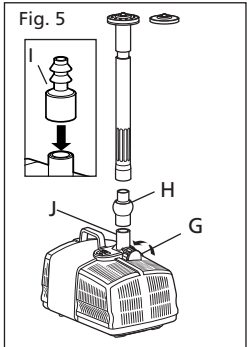

Fig. 5
The flow from the pump can be regulated to meet your needs by rotating the flow controller wheel (G) near the outlet of the pump. See Fig 5.
- The ball joint - See Fig 5 (H), fits onto the
1. Fit a suitable length of hose 12.5mm bore hose on to the hose adaptor. See Fig 5 (I).
2. Holding the pump in one hand, press the release button (J) on the top of the pump and open Strainer Cage. See Fig 5.